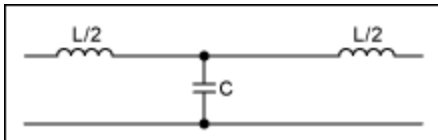
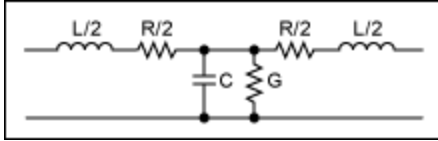

Figure 2. Lossless transmission line.
Figure 3. Lossy transmission line.
**Figure 2** shows a lossless transmission line. It is lossless, because there are no resistive elements that create losses.
If  $R \ll j\omega L$  and  $G \ll j\omega C$ , then we can ignore the lossy terms of  $R$  and  $G$ . This is the assumption that is made in **Figure 3** and, hence, we only need to refer to Figure 2.
There are two fundamental characteristics that define the transmission line in Figure 2.